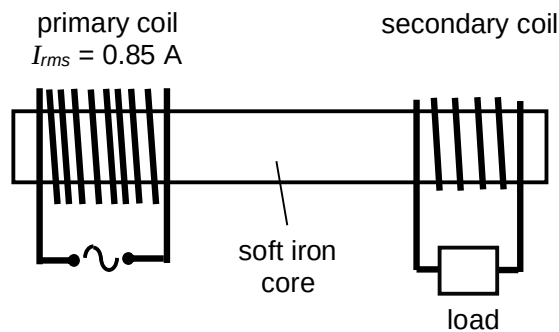

Fig. 5.1
- 5 An ideal transformer is connected to a sinusoidal a.c. supply, as shown in Fig. 5.1. The primary coil has a r.m.s. current of 0.85 A.